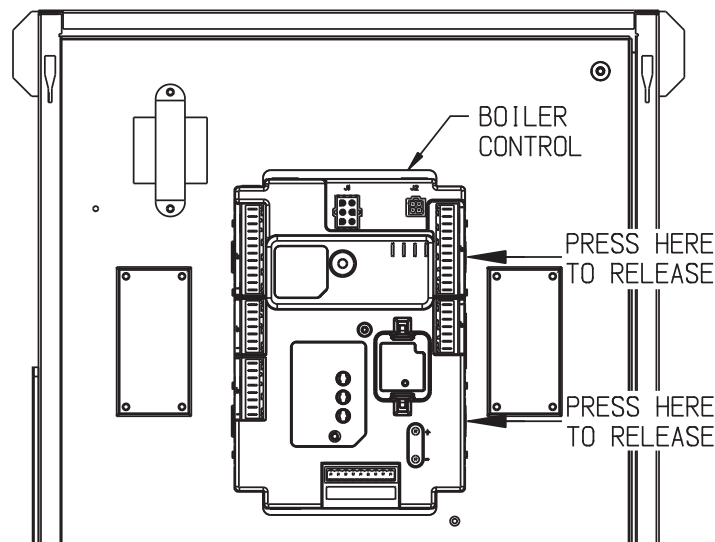

Figure 1: Location Of Boiler Control Release Tabs
- 3) Press on the two tabs on the right side of the control (Figure 1) to release the old control from the door panel.